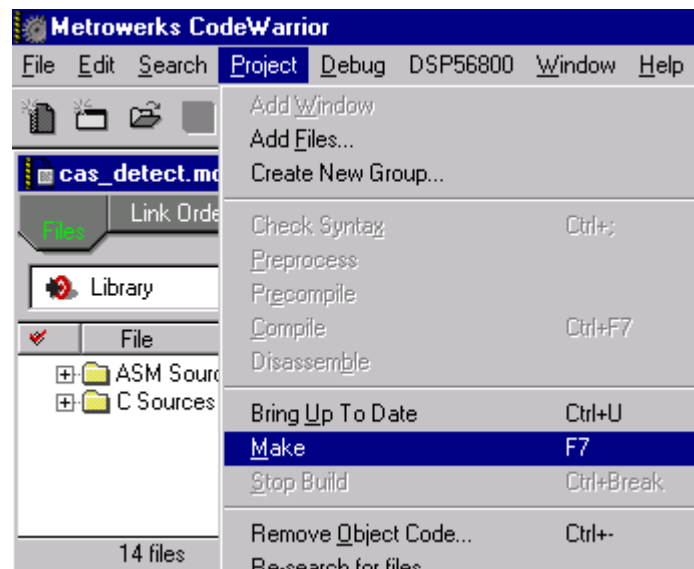

Figure 4-3. Execute Make
Step 2. Execute the build by pressing function key [F7] or by choosing *Make* from the Project menu; see **Figure 4-3**.